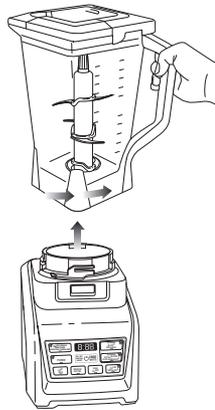

Fig. 8
- 14 Turn the pitcher counterclockwise to remove and then lift off the base. (Fig. 8)